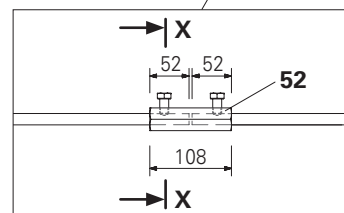

Fig. A7.04b
5. Screw the hex. nut back until the flat side of the tie rod is perpendicular to the bolt. (Fig. A7.04b + c)
6. Hand-tighten* the second hex. bolt (**52.2**). (Fig. A7.04b + c) → Coupled tie rods are secured.
(Fig. A7.04b +c)